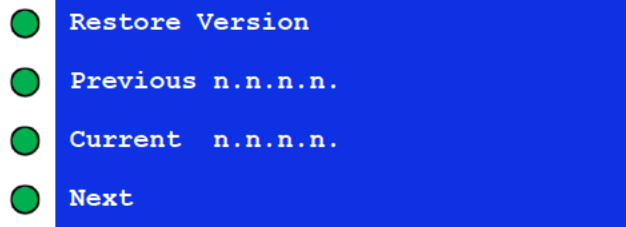

Figure 20: Restore Version
- Screen 1 (Figure 20) displays the Restore Version screen, which lists the current and previous software versions for this monitor. A restoration option is available for users who are working with Encoding Operations. Next does not have a function in this screen.